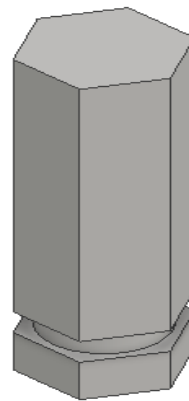

Figure 17-38 The iFeature applied to the model
18. Choose the **Finish** button; the iFeature is applied to the model, refer to Figure 17-38. You will notice that the **iFeature1:1** node is created in the **Browser Bar**.